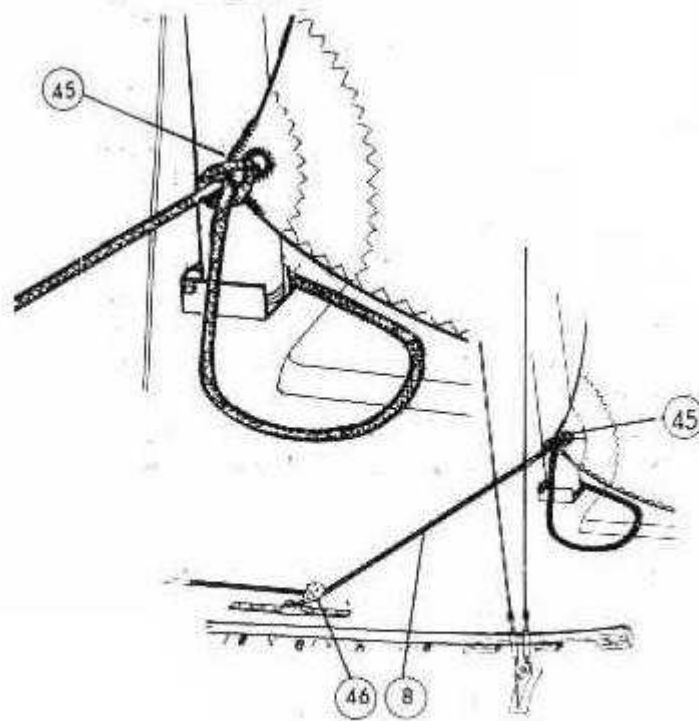

FIG. 8
The tack (47A) of the jib should be secured to the middle hole in the stem head fitting with the shackle (14) provided (Figure 7). The sail is then hanked to the forestay with the sail hanks (44) fitted to the luff of the sail. The jib sheet (8) should be secured to the cringle (45) in the clew of the sail as shown in Figure 8. Each end should then be taken between the upper and lower shrouds and rove through the adjustable jib sheet blocks (46) mounted on short tracks on either side of the cabin top. Tie a figure of eight knot in the end of each sheet.